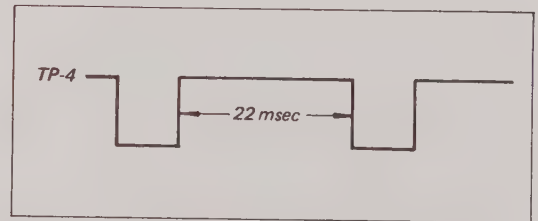

Fig. 7-7. Preliminary tracking adjustment
6. Adjust R20 for a 22 msec positive pulse duration for the waveform at TP-4 (CH-1). See Fig. 7-7.